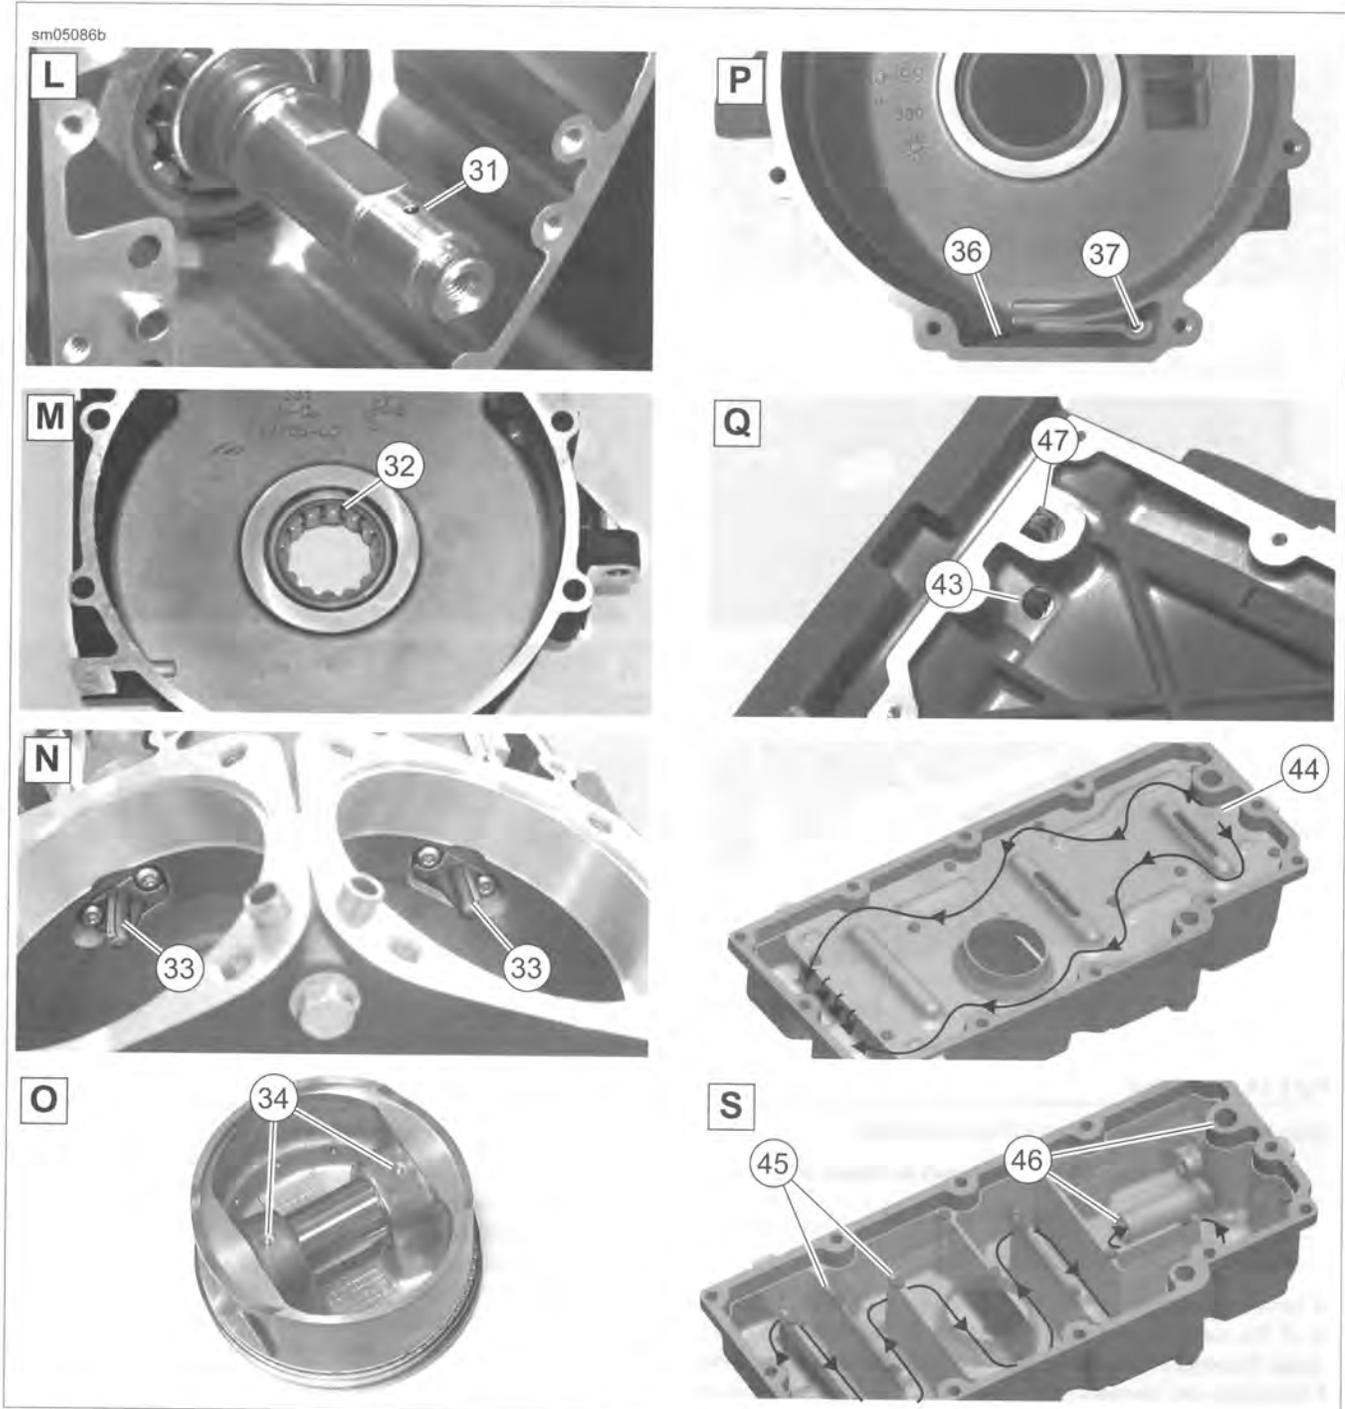

Figure 3-3. Engine Oil Flow: Bottom End
- Bottom end oil flow is shown in Figure 3-3.